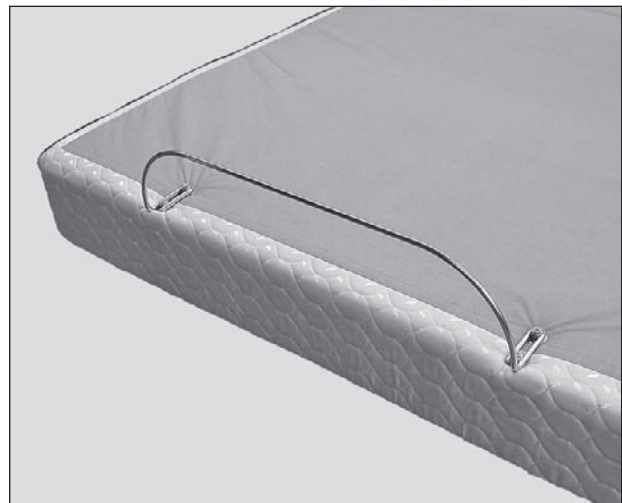

FIGURE 6: Standard mattress retainer installed.
d. Tighten screws to complete mattress retainer installation (**FIGURE 6**).